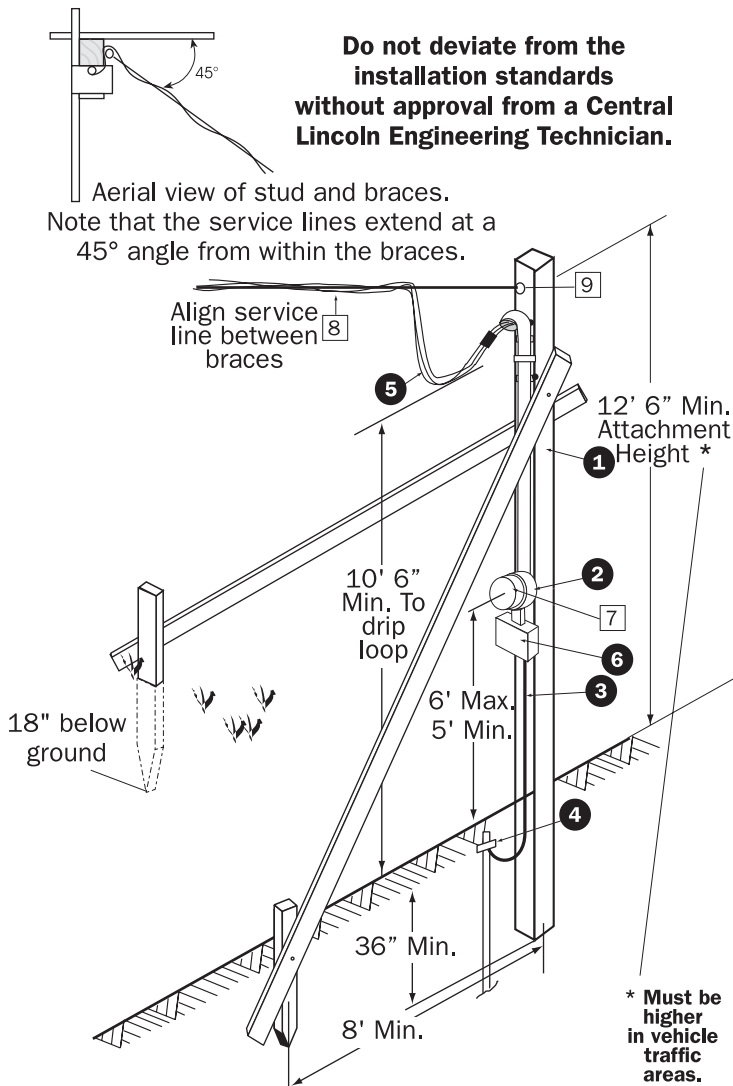

Figure B-2.
The NEC and NESC require the lowest point of a service conductor to be at least 12 feet 6 inches above the ground. The bottom of the drip loop must be a minimum of 10 feet 6 inches above the ground (see Figure B-2). **NOTE: Clearance over any driveway must be at least 18 feet.**
Figure B-2 is a drawing of the standard temporary overhead service installation recommended by Central Lincoln. The specifications given are the minimum acceptable.
● Items owned & installed by the customer (Figure B-2)
□ Items owned & installed by Central Lincoln (Figure B-2)